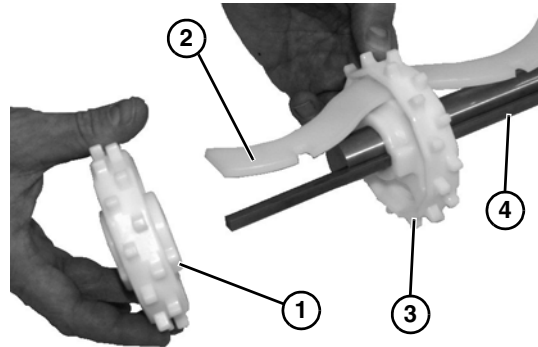

Figure 41
9. Slide entire sprocket assembly slightly outward, and remove the first sprocket (Figure 41, item 1) off the drive spindle and alignment bar (Figure 41, item 2).
10. Remove remaining sprockets (Figure 41, item 3) off the alignment bar as you slide entire assembly off the drive spindle (Figure 41, item 4).